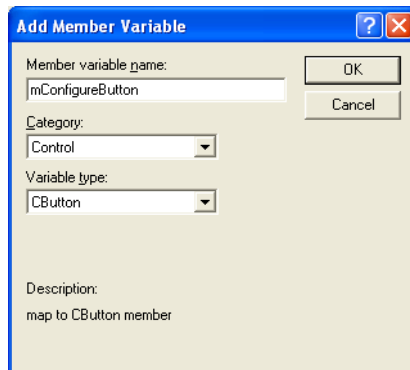

Figure 51 Adding a Member Variable with MFC ClassWizard
3. For each Control ID, you must add a member variable. To add a member variable, double-click the Control ID and complete the form. Figure 51 shows the completed form for **IDC_BUTTON_CONFIGURE**.